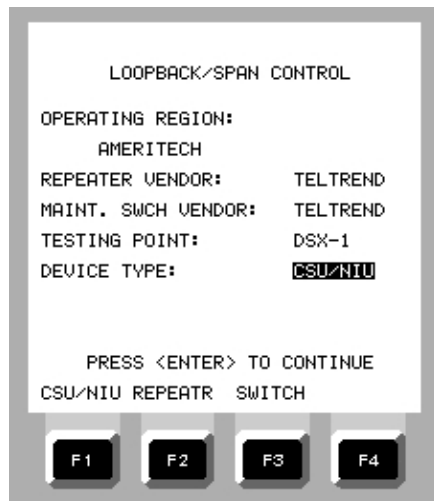
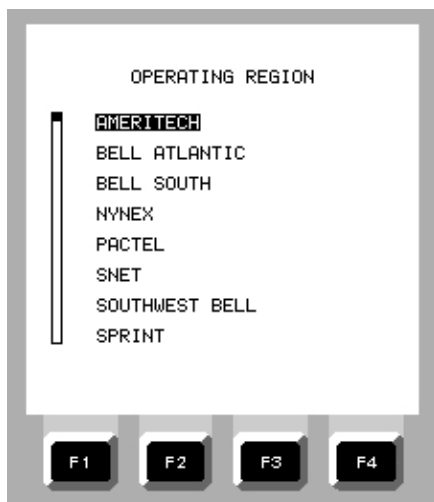

Figure 2-97. LOOPBACK / SPAN CONTROL Menu
Figure 2-98. OPERATING REGION Menu
5. On the LOOPBACK/SPAN CONTROL menu (Figure 2-97), move the cursor to OPERATING REGION and press EDIT for the OPERATING REGION menu (Figure 2-98). Move the cursor to the system used in your region and press ENTER.
6. Set the REPEATER VENDOR and MAINT. SWCH VENDOR, in step (5) using the EDIT key and menu that appears.